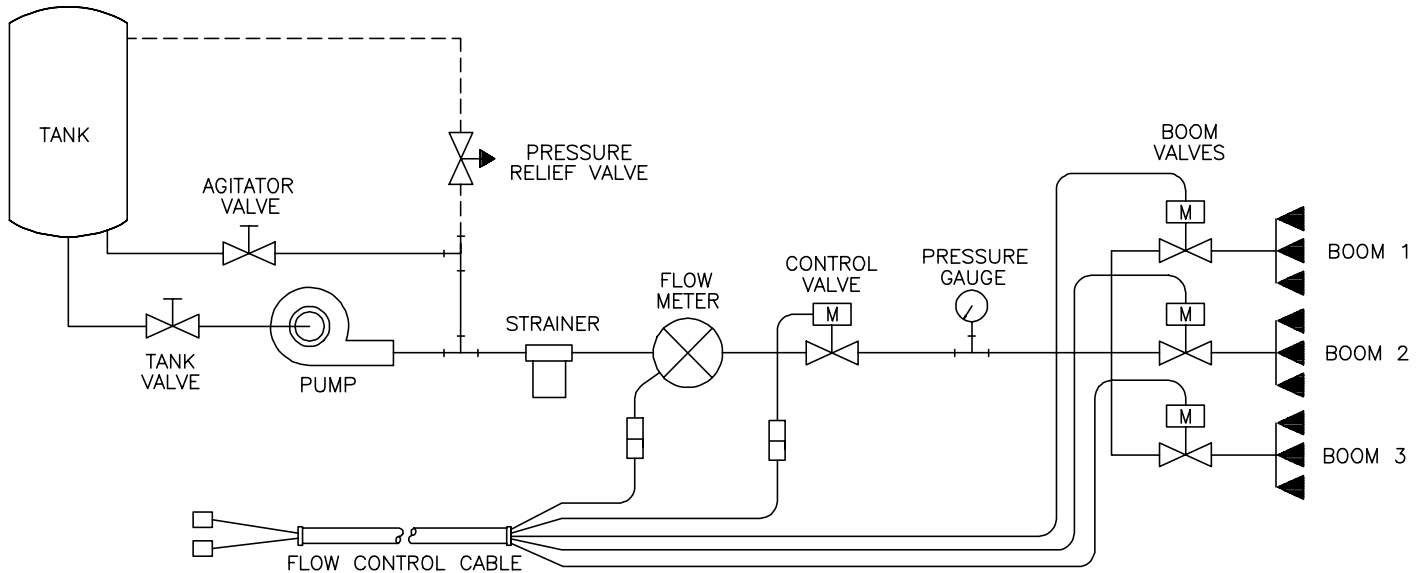

FIGURE 4
- 1) Mount Flow Meter horizontally using bracket per Figure 4. All flow through Flow Meter must go to booms only, i.e., no return line to tank or pump after Flow Meter.